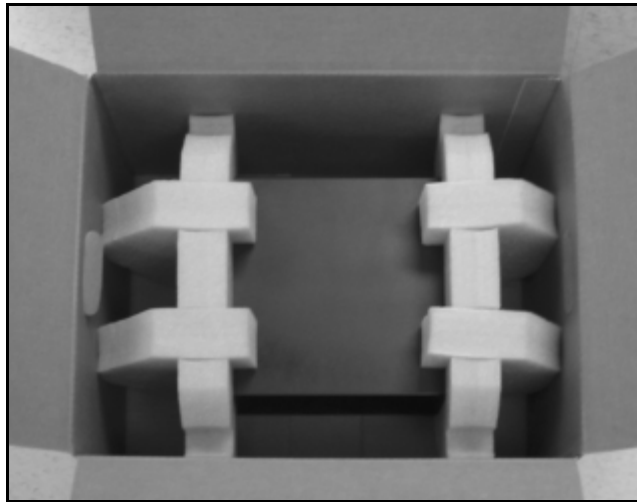

Figure 2-1 *The DASTape with its foam supports inside the box.*
1. Remove the DASTape unit and its foam protectors from the box (Figure 2-1).